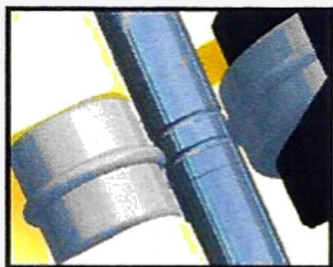

FIGURE 6
- 8 Align the two wheel ridges of the tool with the groove closest to the seam. This is the first groove (figure 6).